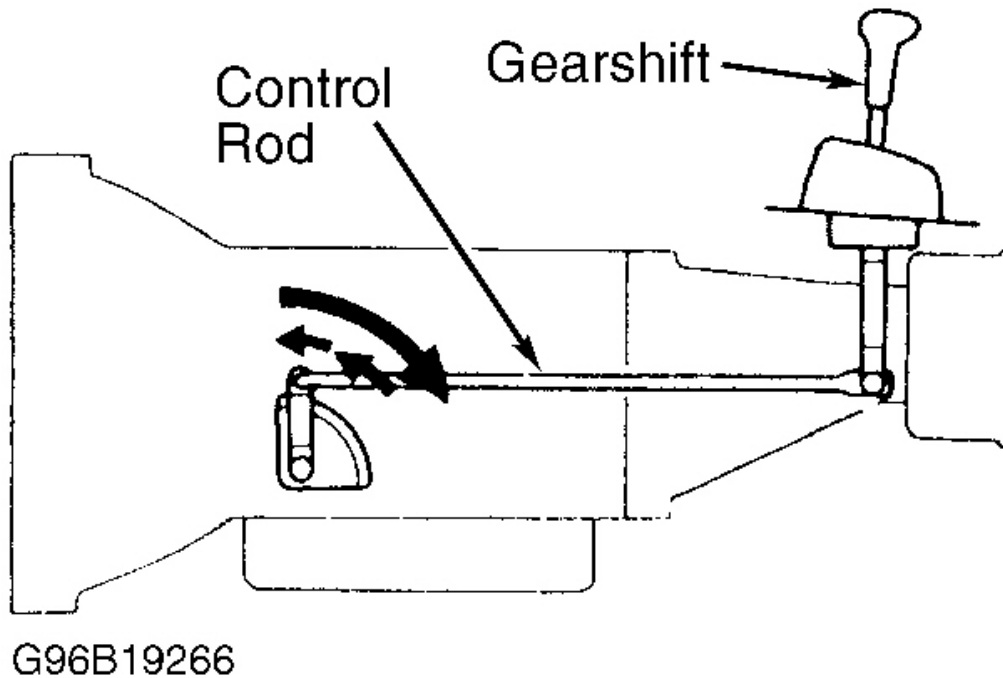

Fig. 9: Adjusting Typical Shift Linkage For Floor Shifts
3. On models with floor shift, loosen nut for control rod at the gearshift. See **Fig. 9** . Pull control rod fully backward toward rear of vehicle to the Park position. Push control rod forward 2 notches to the Neutral position. Ensure gearshift is in Neutral. Tighten nut for control rod at gearshift.
4. Apply parking brake. Loosen nut for control rod at the gearshift. See **Fig. 9** . Pull control rod fully backward toward rear of vehicle to the Park position.